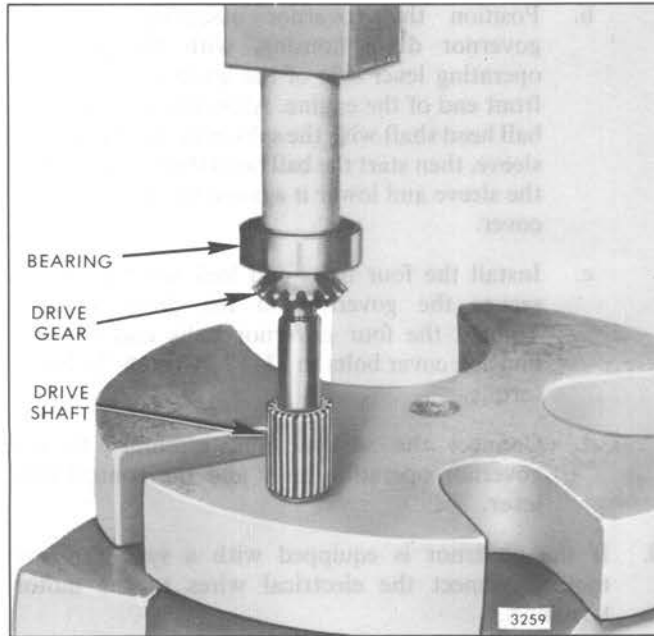

Fig. 8 – Installing Drive Gear and Bearing on Drive Shaft
d. Place the drive shaft, gear and bearing assembly on the bed of an arbor press with the bearing and gear end up (Fig. 8). Then place a sleeve or a round brass bar on the inner race of the bearing